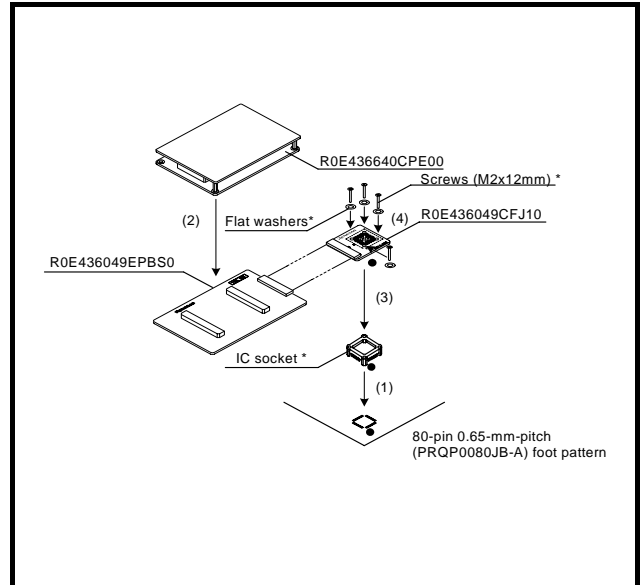

Figure 3 Connection procedure of the R0E436049CFJ10
5. Connection Procedure (See Figure 3)